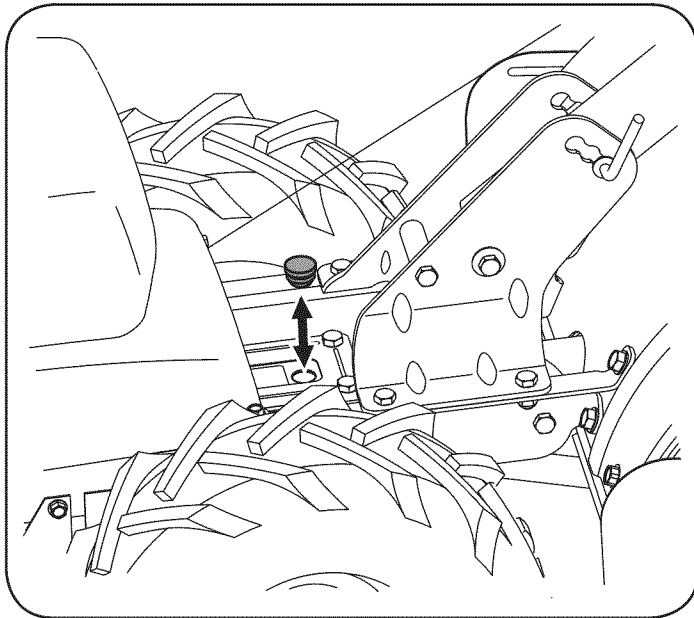

Figure 25
3. Remove the oil fill plug from the transmission housing and look inside the oil fill hole to locate the main drive shaft situated below the hole. See Figure 25.